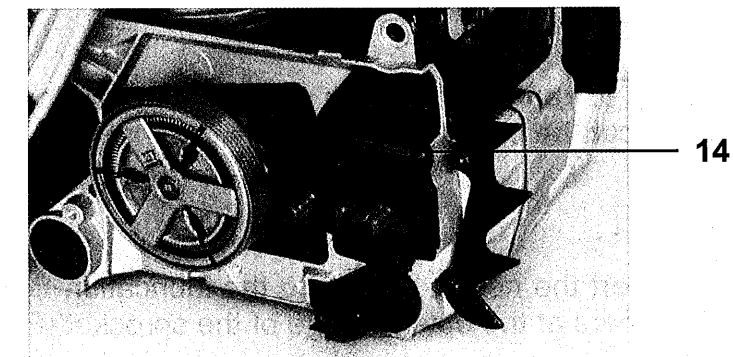

Fig. 44
2. Check the oiling port (14) for clogging and clean if necessary to ensure proper lubrication of the guide bar and saw chain during operation. Use a soft wire small enough to insert into the oil discharge hole (Fig. 44).